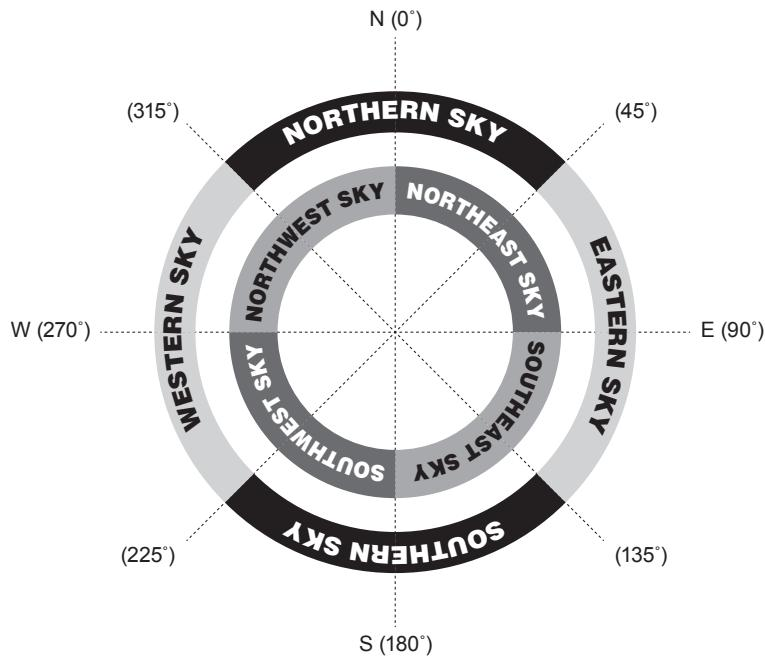

Fig. 3.4a
2. The hand control displays “Select Region”. Use the scroll keys to pick one of the eight regions shown in Fig 3.4a, which matches the horizontal region of the brightest star. Press **ENTER** to confirm selection and proceed to the next step.